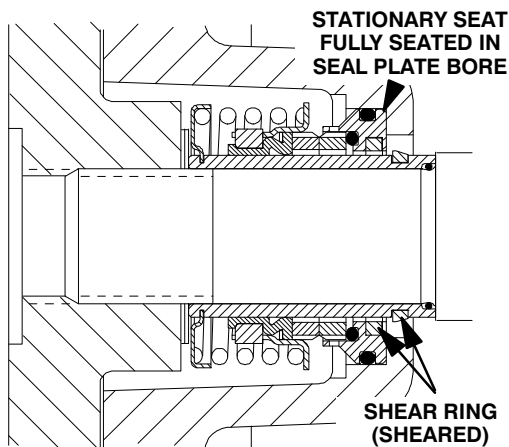

**Figure 9. Seal Partially Installed**
Clean and inspect the impeller as described in **Impeller Installation and Adjustment**. Install the full set of impeller shims (2) provided with the seal, and screw the impeller onto the shaft until it is seated against the seal (see Figure 9).